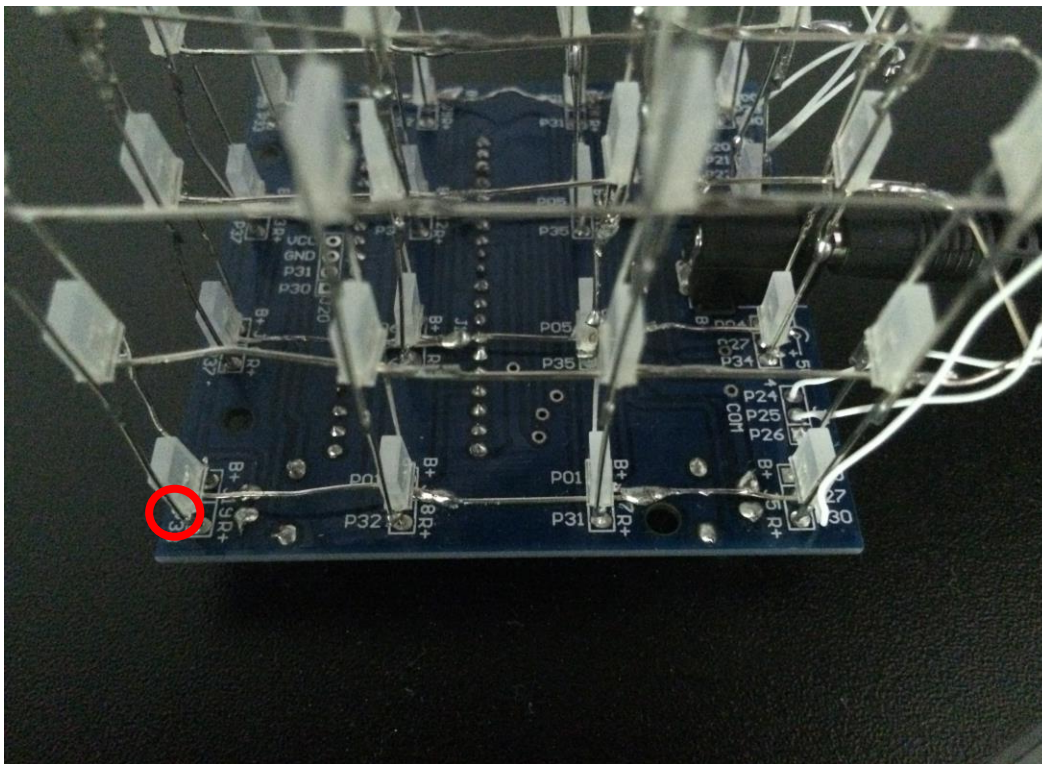

Figure 4: The correct soldering process of the bottom row LEDs
7. Now, begin soldering four rows of LEDs on the PCB where the following reference numbers are printed: (P03, P33), (P07, P37), (P02, P32), (P06, P36), (P01, P31), (P05, P35), (P00, P27, P30), (P04, P27, P34), (P04, P23, P34) and (P00, P23, P30). The leads must be soldered on the other side of the board. The schematics that have three reference numbers just like the ones highlighted above in red are where all three pins of the LEDs can be soldered on the board. The schematics where there are only two reference numbers are where only the two outer pins of the LEDs can be soldered on the board. The middle pins must be soldered to the middle pin of the LED directly to the right, down the row (so, for instance, the middle pin of (P03, P33) will get soldered to the middle of (P02, P32) and so forth down the row – the same thing should be repeated for the three other rows). If done properly, a structure just like the one in Figure 4 must be obtained.
8. Begin by installing each of the four previously made column of LEDs on top of the bottom rows of LEDs as it can be seen above in Figure 4.